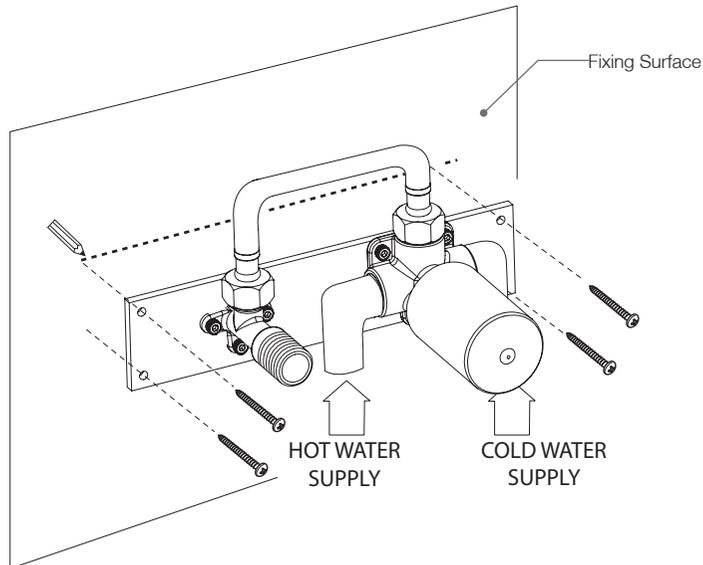

fig. 4
- Mark a horizontal line on the fixing surface at the required height and screw the back plate in place making sure that it is level. Use fixings suitable for the surface material. Make final plumbing connections, turn water on and check for leaks. (fig 4)